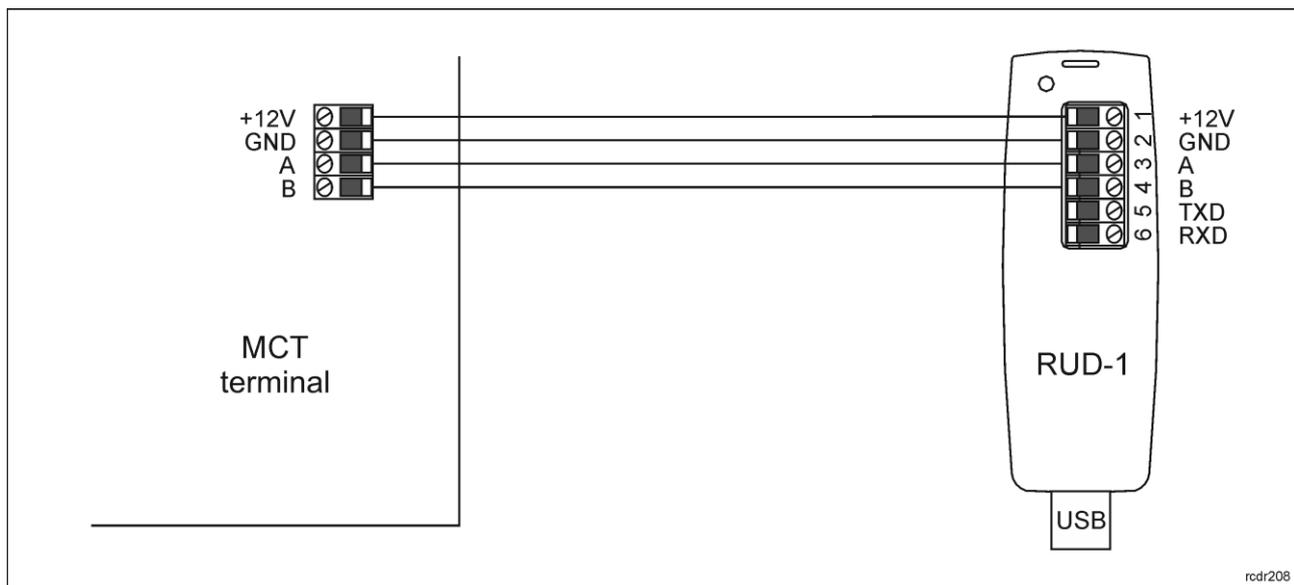

Fig. 6 Connection to RUD-1 interface (low level configuration)
1. Connect the device to RUD-1 interface (fig. 6) and connect the RUD-1 to computer's USB port.
1. Connect the reader to RUD-1 interface (fig. 6) and connect the RUD-1 to computer's USB port.